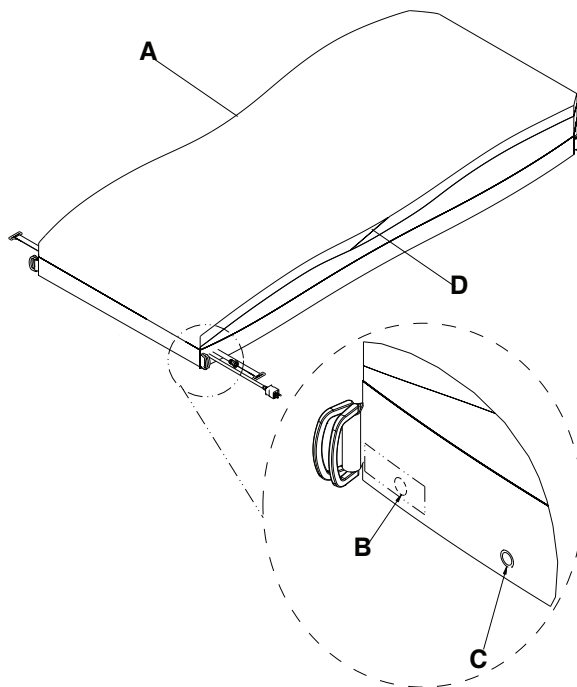

Figure 18 – Top cover
5. Unsnap the two secure snaps (C) at the foot end corners (Figure 18).
6. Unsnap the two foot end corner retainers (B).
8. Using the zipper pull tool, unzip the support surface top cover from the bottom cover (A) and stop unzipping at the middle of the opposite side (D).